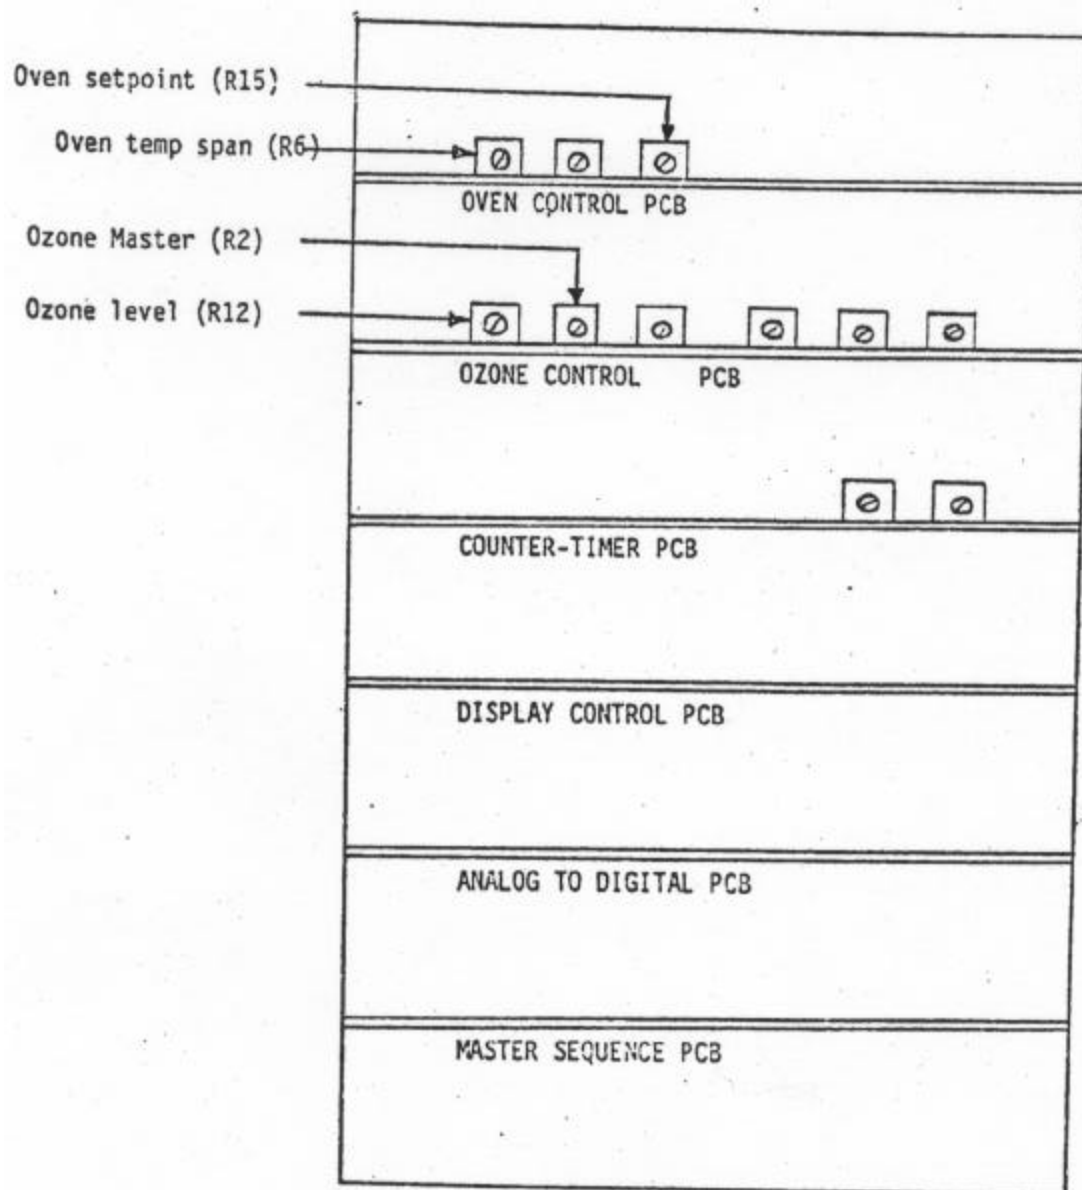

Figure I.3.1.6
3. Adjust the OZONE MASTER control (R2) on the OZONE CONTROL P.C. board (see Figure I.3.1.6) until the measured concentration corrected for true ozone is 0.50 ppm. Then adjust the OZONE LEVEL control (R12) on the OZONE CONTROL P.C. board (see Figure I.3.1.6) until the digital display on CSI 1790 reads 2.5 ppm.
2. If the temperature reading in the tube being tested is not  $30^{\circ}\text{C}$ , note the display temperature and adjust the OVEN SETPOINT CONTROL (R15) on the permeation oven controller P.C. board (see Figure I.3.1.6).
5. Once the temperature is properly set, adjust the OVEN TEMP SPAN control (R6) to make the digital display agree with the temperature sensor reading (see Figure I.3.1.6).